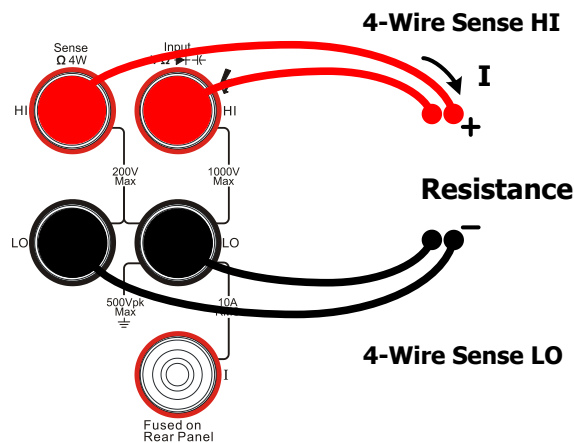

Figure 2-20 Sketch map for connecting
1. Connecting the red leads (Test leads) to Terminal Input-HI and HI Sense and black leads to Terminal Input-LO and LO Sense as shown in Figure2-20. That is connecting the Test leads to both side of the measured resistance.